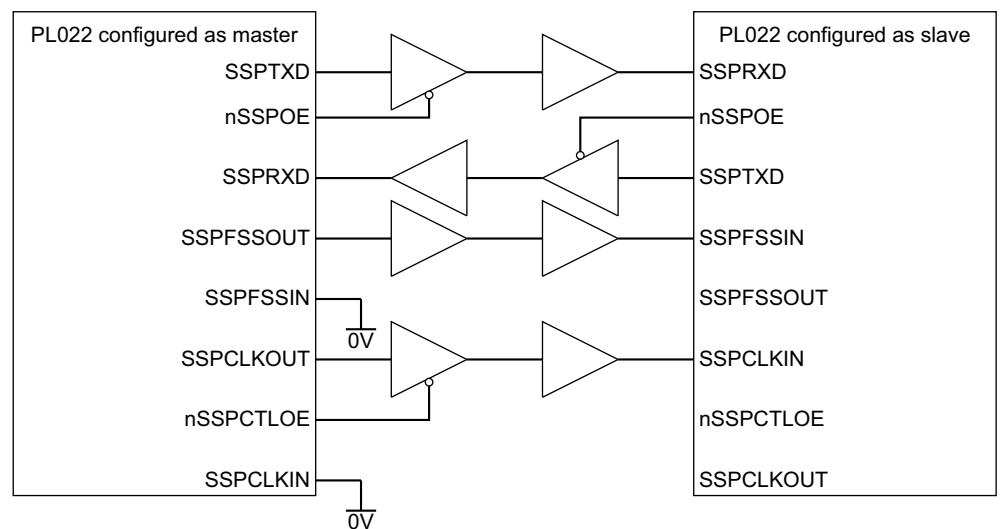
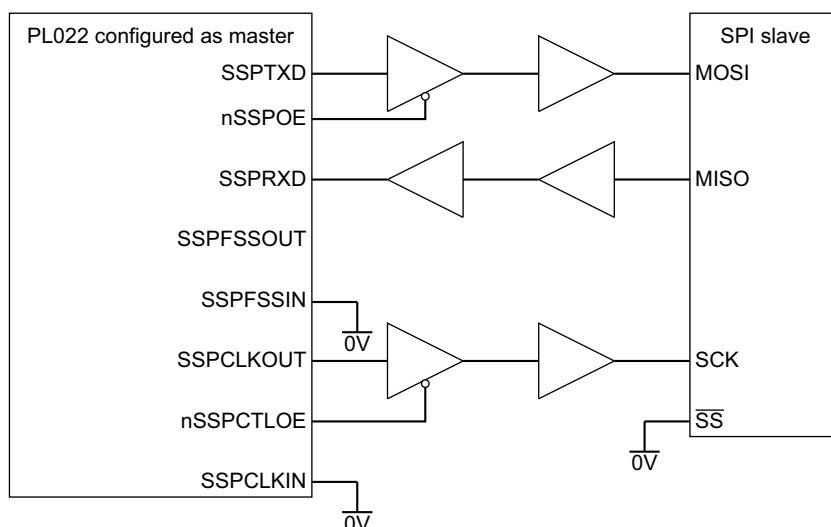
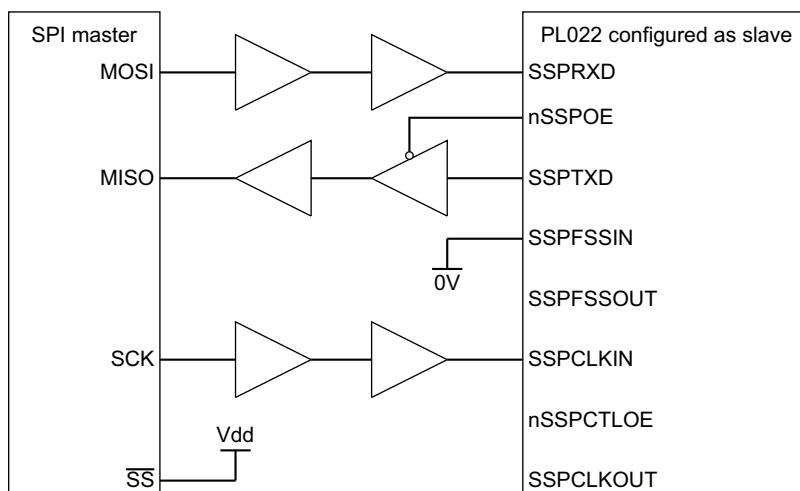

Figure 2-13 PrimeCell SSP master coupled to a PL022 slave
Figure 2-14 PrimeCell SSP master coupled to an SPI slave
Figure 2-15 SPI master coupled to a PrimeCell SSP slave
Figure 2-13, Figure 2-14 on page 2-18, and Figure 2-15 on page 2-18 show how you can connect the PrimeCell SSP (PL022) peripheral to other synchronous serial peripherals, when it is configured as a master or a slave.
Figure 2-13 shows the PrimeCell SSP (PL022) instanced twice, as a single master and one slave. The master can broadcast to the slave through the master SSPTXD line. In response, the slave drives its **nSSPOE** signal HIGH, enabling its **SSPTXD** data onto the **SSPRXD** line of the master.
Figure 2-14 on page 2-18 shows how an PrimeCell SSP (PL022), configured as master, interfaces to a Motorola SPI slave. The SPI *Slave Select* (SS) signal is permanently tied LOW and configures it as a slave. Similar to the above operation, the master can broadcast to the slave through the master PrimeCell SSP **SSPTXD** line. In response, the slave drives its SPI MISO port onto the **SSPRXD** line of the master.
Figure 2-15 shows a Motorola SPI configured as a master and interfaced to an instance of a PrimeCell SSP (PL022) configured as a slave. In this case, the slave *Select Signal* (SS) is permanently tied HIGH to configure it as a master. The master can broadcast to the slave through the master SPI MOSI line and in response, the slave drives its **nSSPOE** signal LOW. This enables its **SSPTXD** data onto the MISO line of the master.